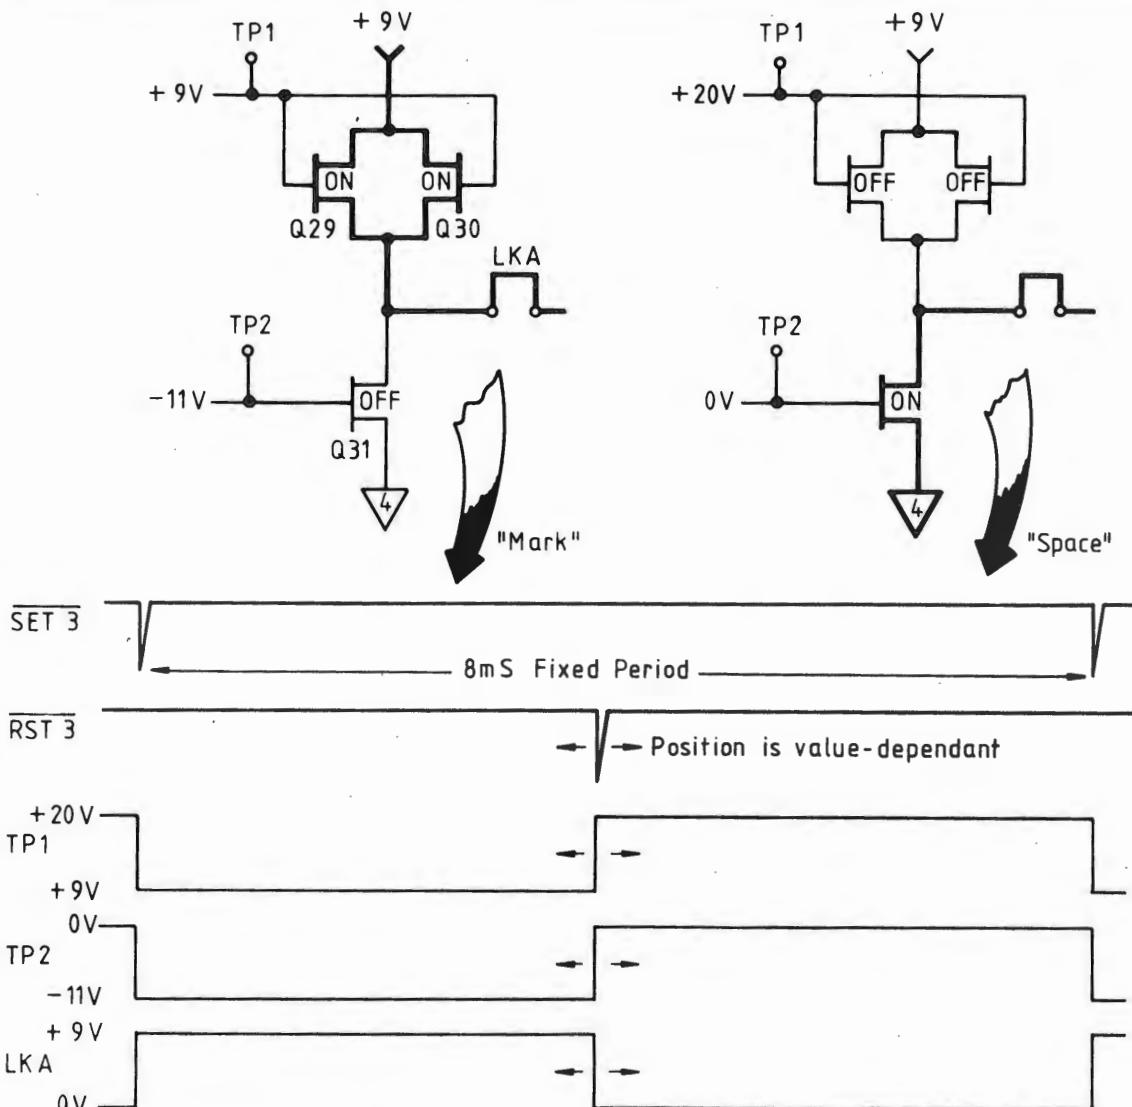

FIG. 6.26 ACTION OF LSD SWITCH
6.5.6 LEAST-SIGNIFICANT-DIGITS SWITCHING (Fig.6.26)
Q5-Q8 form a fast bistable using emitter-coupled logic, to switch TP1 between +9V (mark) and +20V (space). During the "Mark" time after SET 3 pulse, Q29 and Q30 are switched ON, connecting LKA to +9V Ref. Q1-Q4 have the same bistable action as Q5-Q8, switching Q31 off during the "Mark" period by -11V at TP2, thus disconnecting LKA from Common-4 (0V). During the "Space" time after RST 3 pulse, Q29 and Q30 disconnect LKA from +9V Ref, and Q1-Q4 switch Q31 on, connecting LKA to Common-4 (0V). Fig.6.26 demonstrates this action.